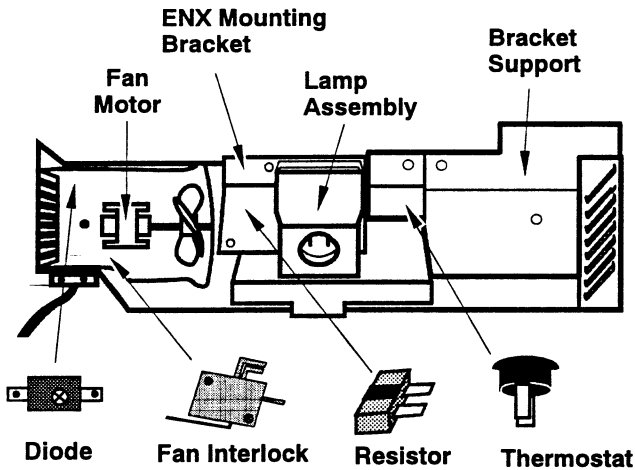

Figure 5-23. Location of Electrical Components
2. Remove the retaining screws securing the bracket support. Figure 5-23.
For ENX single lamp, it is located under the ENX mounting bracket. Figure 5-23.